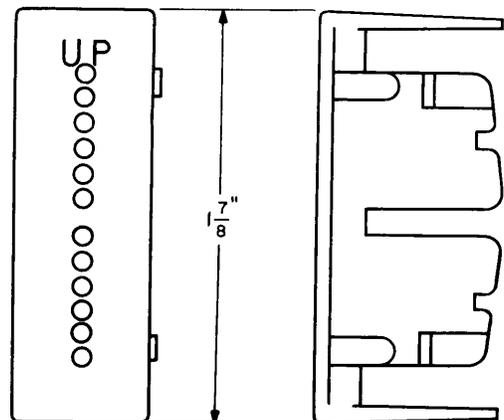

Fig. 2—651C Holder Tool
- (b) **651C:** The 651C holder tool (Fig. 2) is used on AF-, AG-, and 12-position, AJ-type relays which are not equipped with a spring for retaining the relay contact cover.